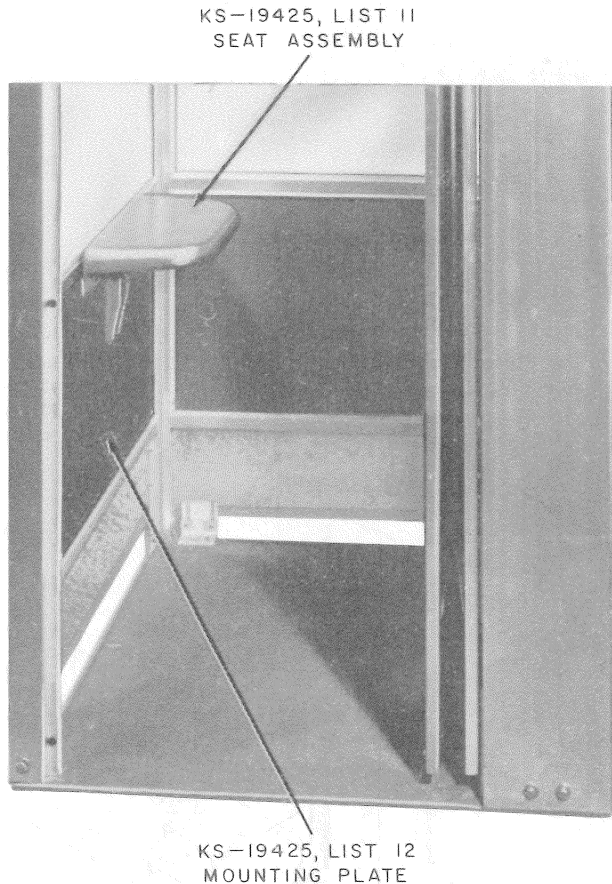

Fig. 10—KS-19425, List 11 Seat Assembly with KS-19425, List 12 Mounting Plate
2.19 This booth is designed primarily for standup service; however, a KS-19425, List 11 seat assembly can be used if desired (Fig. 10). Order seat assembly and KS-19425, List 12 mounting plate separately when required.